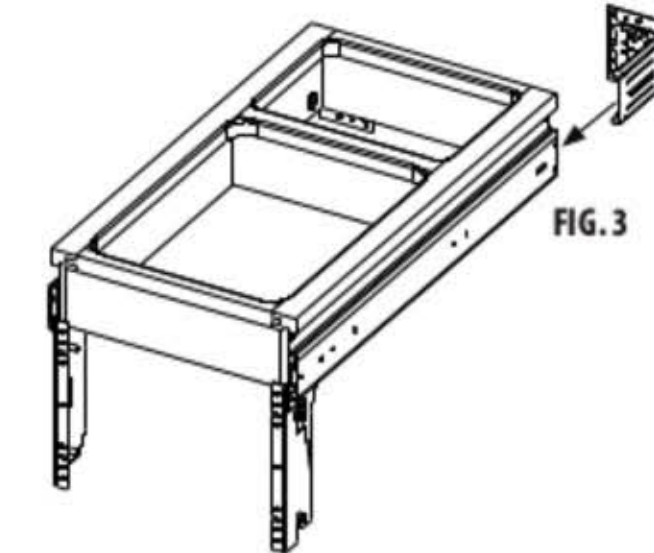

FIG. 3
4. Install rear brackets to rear of slides (see fig. 3).